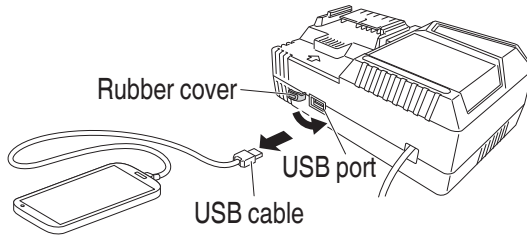

Fig. 21
- (3) When charging is completed
- Unplug the power cord from the electrical outlet. (Fig. 21)